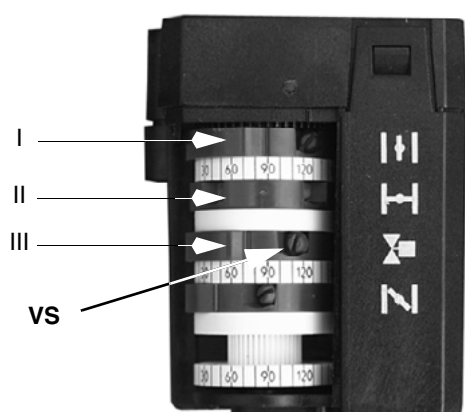

Fig. 42 - Berger STA4.5B037/4
- Adjust the air flow in low flame by working on the appropriate cam (Fig. 42).